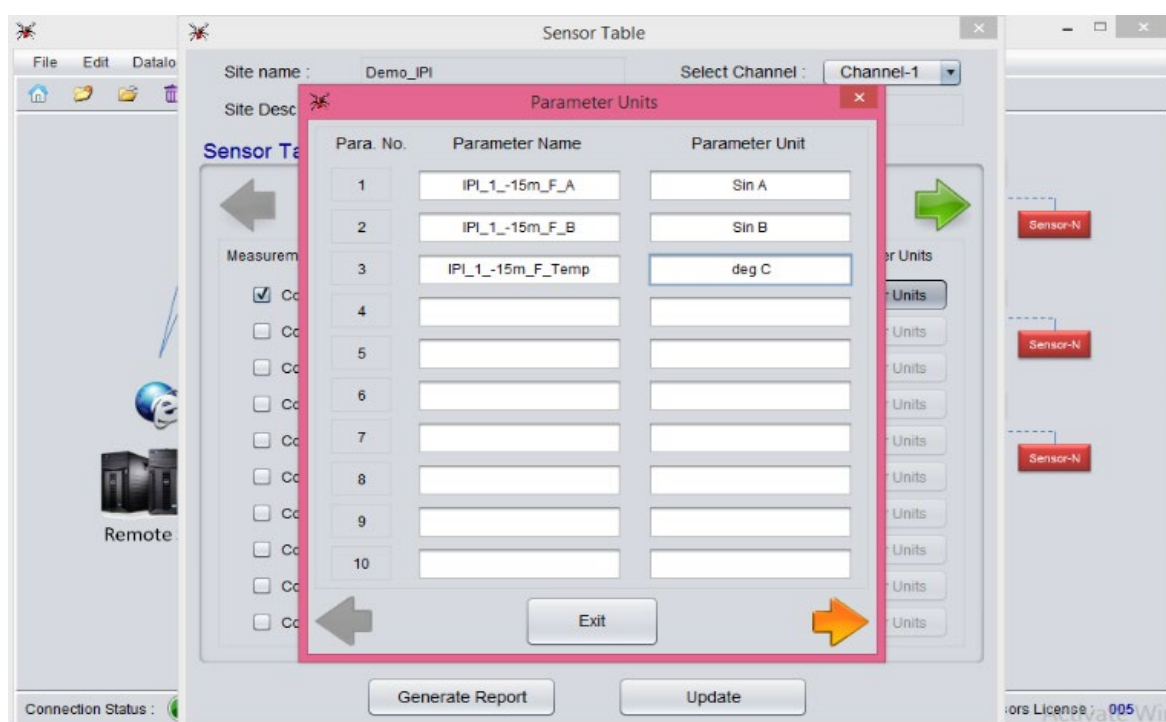

Figure 7-18 Parameters unit window of EDSL-30UNI Configuration Manager Software
- 17 “Parameter Units” window will appear as shown in figure 7-18 below. Enter the required “Parameter Name” & “Parameter Unit”. Then click “Exit”